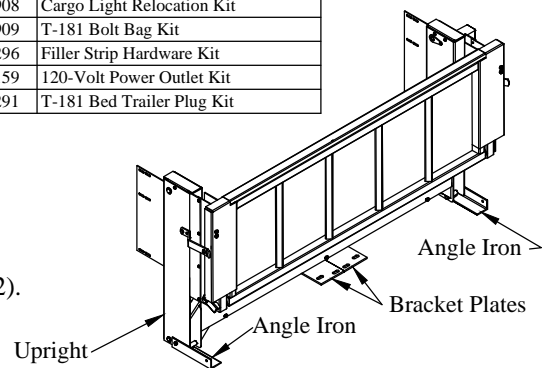

Figure 2: Complete liftgate.
4. **Unbolt** and **Save** the two (2) angle irons attached to the liftgate uprights (Figure 2).
5. **Remove** and **Save** the two (2) bracket plates attached to the liftgate (Figure 2).